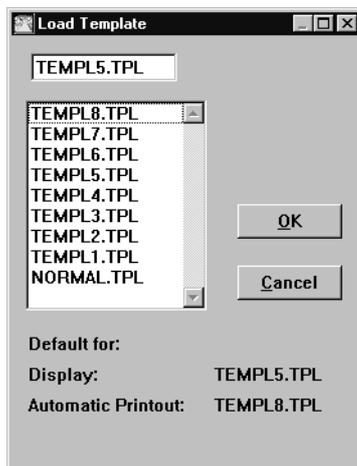

Fig. 23 The load template dialogue box.
- 2 A dialogue box is shown, see Fig. 23, from which the desired template can be selected.